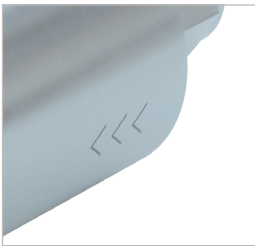

Figure 1
**Attention:** Observe the direction of the flow – the flow direction is marked on the filter housing (Figure 1).